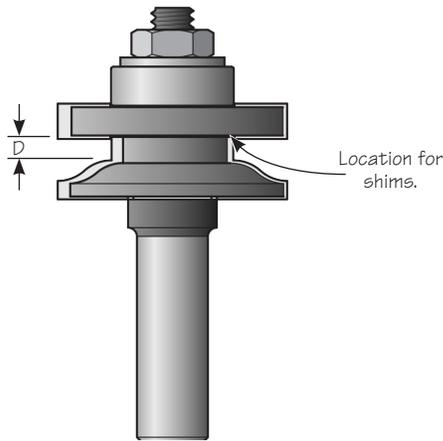

Figure 4: Bit assembled for sticking cut.
2. Assemble the router bit for the sticking cut, as shown in **Figure 4**. Install the bit in a table-mounted router and run a length of scrap through to test the cutter spacing (dimension D shown in **Figure 4**).